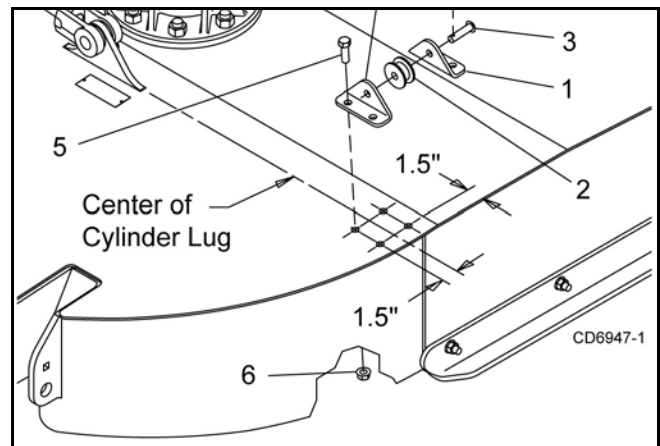

Figure 25. Roller Assembly Installation
1. Locate and drill one 9/16" hole in each wing using dimensions shown in Figure 25. Assemble items 1, 2, 3 and 4. Use assembly to locate and drill remaining holes.
2. Secure idler brackets (1) and rollers (2) to deck with bolts (5) and nuts (6).
3. Remove cylinder pin: Place channel (10) over cylinder and cylinder lug. Place wing lock-up bracket over channel and insert pin (8), washers (7), and cotter pins (9). NOTE: Washers (7) are used as spacers and are placed between lock-up bracket and channel (10) as needed.
4. Repeat step to install second channel (10) on opposite wing.
5. Attach winch assembly to channels (10) using bolts (5) and lock nuts (6).